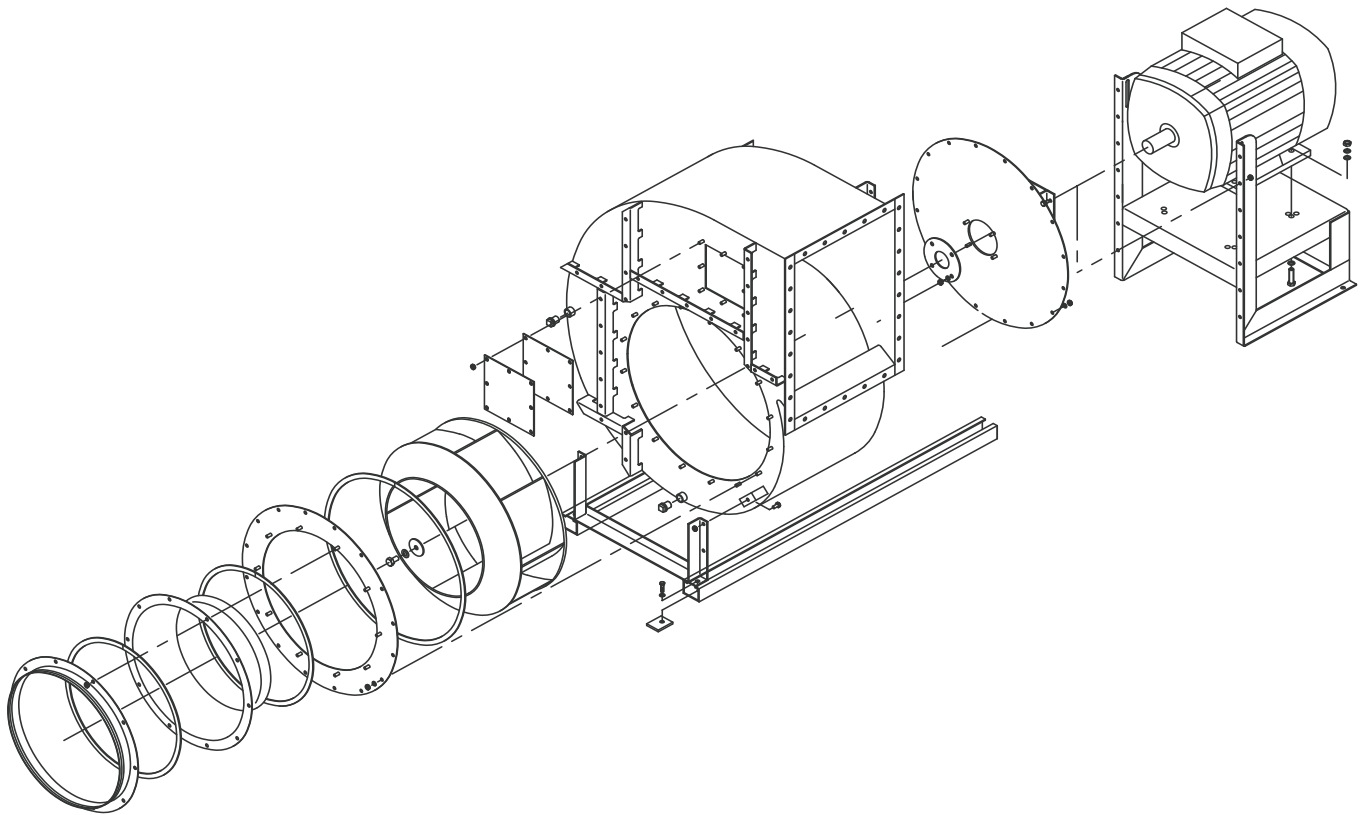

Fig. 4
Fig. 4. First, dismount the duct from the fan inlet side. Then remove duct connection (pos. 1), inlet cone (pos. 3) and intermediary flange (pos. 5) by loosening and unscrewing the nuts (pos. 6). Then remove the screw (pos. 12) and motor disc (pos. 10) holding the impeller. Detach the impeller using a puller secured in the two threaded puller holes in the impeller hub.
Fig. 4. Place the impeller (pos. 9) on the shaft, mount pos. 10-12, and tighten the screw (pos. 12). Mount duct connection (pos. 1), inlet cone (pos. 3) and intermediary flange (pos. 5). Remember to check that the distance between inlet cone (pos. 3) and impeller (pos. 9) is equally large everywhere, and that the seal (pos. 8) still is elastic. Finish by tightening screws (pos. 6).